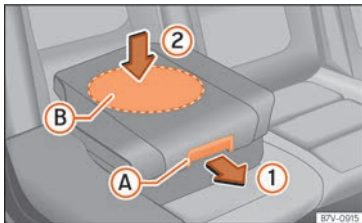

Fig. 36 Integrated child seat: lowering the cushion.
- Pull the unlock lever »» Fig. 36 (A) on the cushion in the direction of the arrow ①.
- Push the cushion down through the central area (B) in the direction of the arrow ② until it safely engages »» ④. The side supports fold away automatically.
When lowering the integrated child seat, only press on the centre of the cushion »» Fig. 36 ②. Otherwise the cushion could bend and not engage properly.